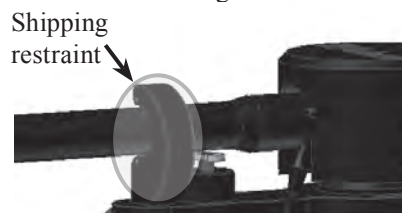

Figure 10
- Remove any shipping restraining materials from the Tone Arm Rest Holder. Refer to figure 10.